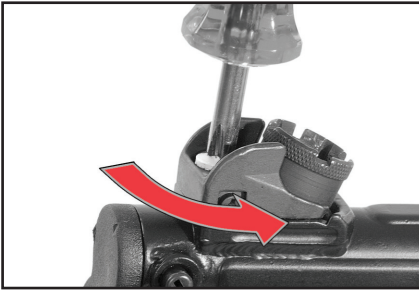

Fig. 21 – Loosen set screw
1. Loosen the vertically mounted set screw by turning counter-clockwise with Phillips-head screwdriver (Fig. 21).